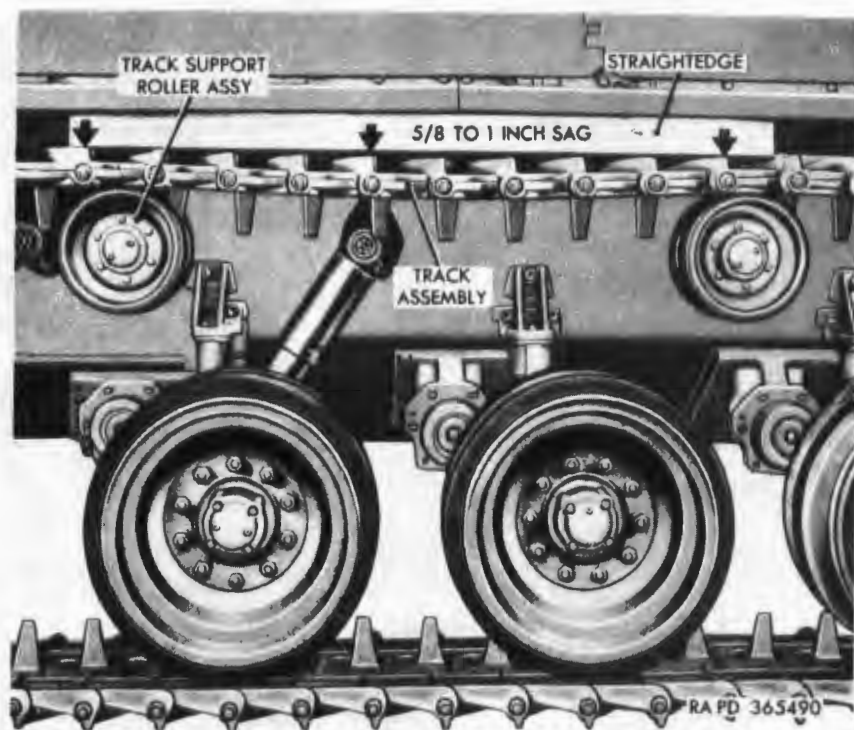

Figure 207. Measuring track tension.
- (1) *Checking adjustments.* To check track assembly adjustment, drive vehicle and allow it to coast to a stop on level ground without applying the brakes. Check the track sag with a straightedge placed over the track above the first and second track support roller assemblies (fig. 207). Track assembly should sag below bottom edge of straightedge a distance of $\frac{5}{8}$ to 1-inch. If sag is over 1-inch, adjust the track assembly ((2) below).